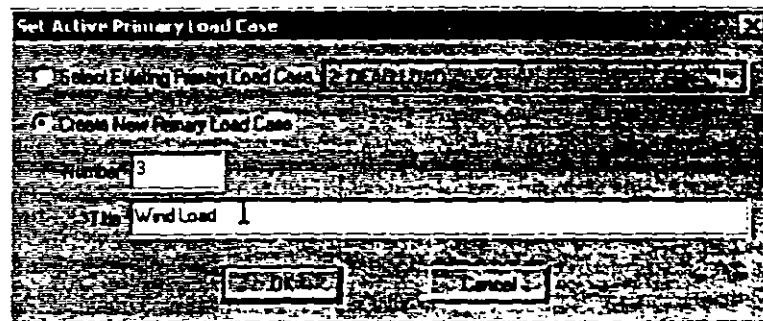

Figure 3.71
9. Create another Primary Load Case by clicking on the "New Primary." button in the assign loads dialog box. Provide the title of this load case (Load Case 3) as "Wind Load" as shown in Figure 3.71 below